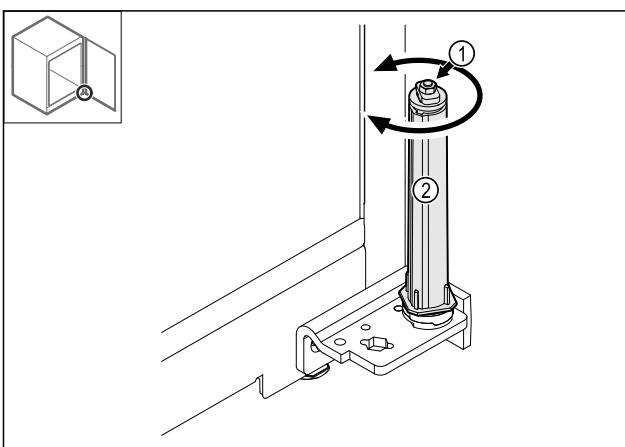

Fig. 44
► Do not disassemble the screw connection *Fig. 44 (1)* of the closing system.
► Turn the closing system *Fig. 44 (2)* until it clicks.